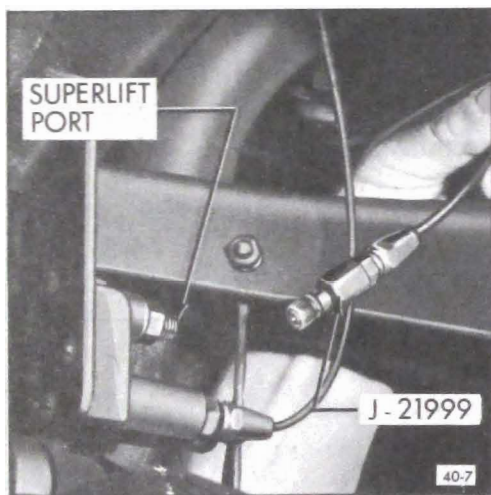

Figure 40-8 - Remove Superlift Air Supply Line
2. Remove Superlift air supply line at height control valve. See Figure 40-8.